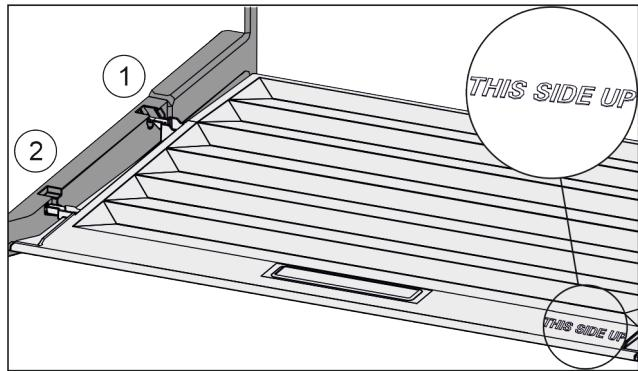

Fig. 26
- Insert the lip of the cover over the opening of the rear bracket Fig. 26 (1) and click into place Fig. 26 (2).